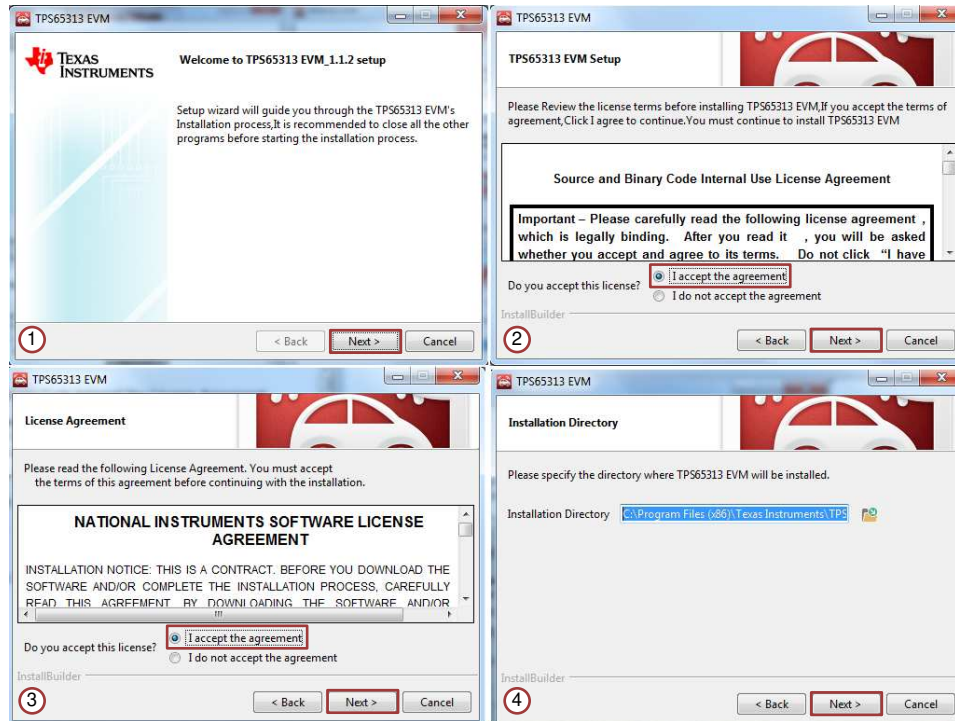

Figure 2. TPS65313-EVM GUI Installation Sequence
- Step 2. **Figure 2** shows the GUI installer window in a sequence (1, 2, 3, and 4). When the installer window opens, click the *Next* button. Select the *I accept the agreement* radio button and then click the *Next* button.